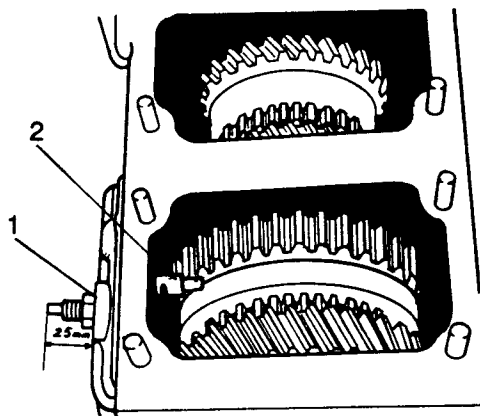

Fig H1.129
- (2) Refer to Fig H1.129. Unscrew the nut (1) and extract the lever threaded pivot.
- (3) Remove the intermediate lever (2) together with the pad.